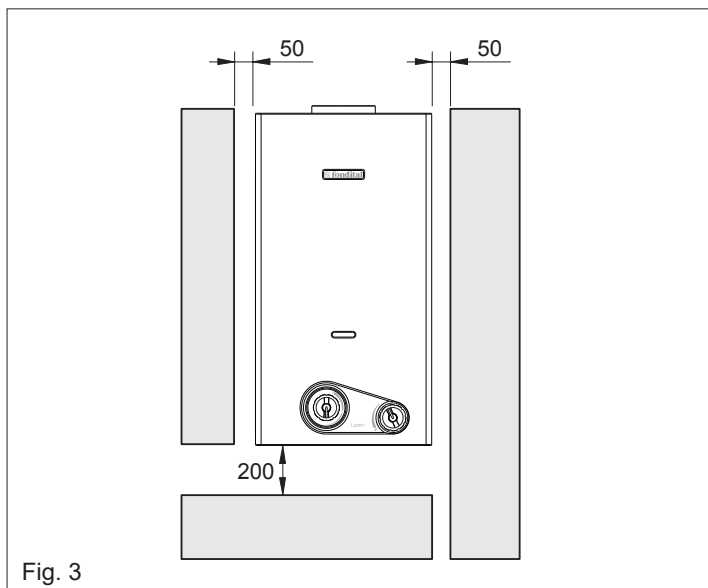

Fig. 3
- It is vital to leave the minimal distances around the device as shown in Fig. 3 to allow for maintenance operations to take place.